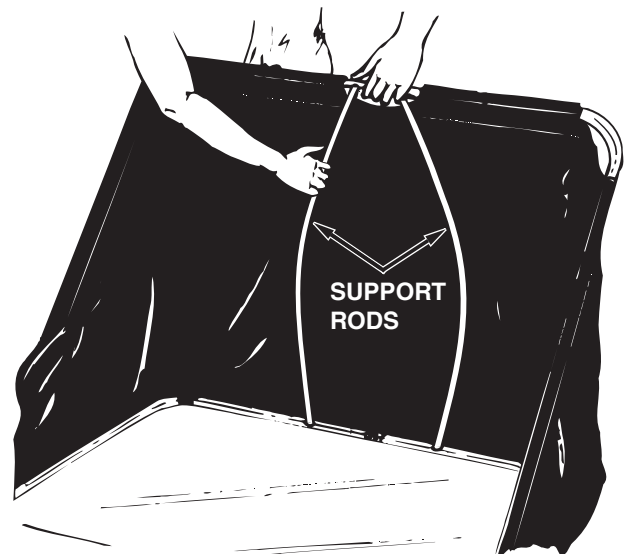

FIGURE 20
10. Assemble the two hopper support rods as shown in figure 20. Place the ends of the rods into the holes in the upper and lower hopper tubes, flexing the rod just enough to fit into the holes in the tubes.